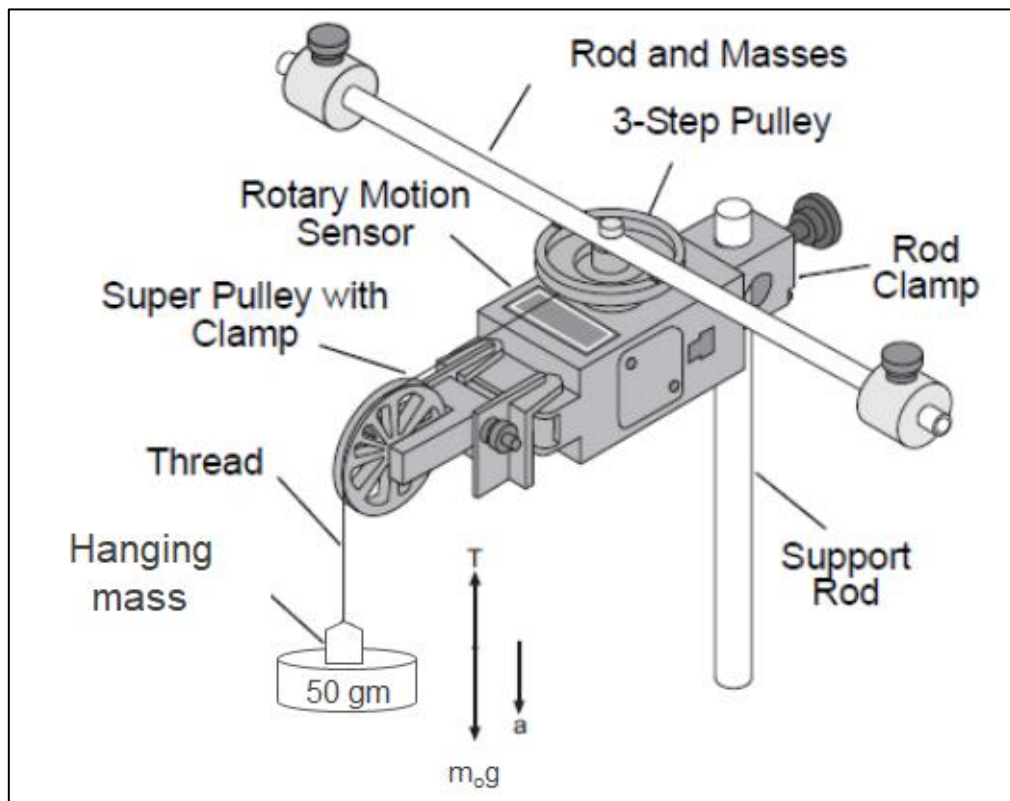

Figure 1.1: Rotary motion sensor and free body diagram
For Figure 1.1, Solving for the tension in the thread gives:
4. Mount the Rotary Motion Sensor on a support rod and connect it to a PASPORT-compatible interface (550 UNIVERSAL INTERFACE). Make sure that the support rod does not interfere with the rotation of the rod and masses (Figure 1.1).
6. Drape the thread over the Super Pulley such that the thread is in the groove of the pulley and the hanging Mass hangs freely (Figure 1.1).